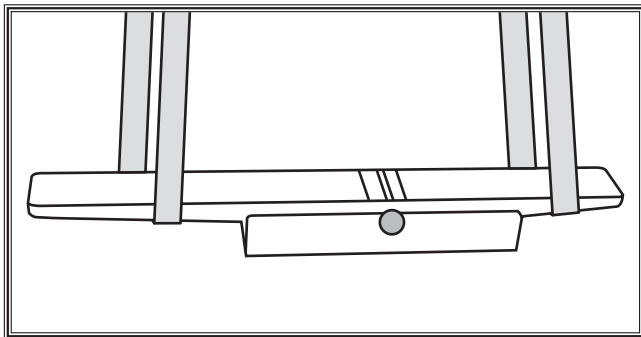

Figure 5. Lifting slings properly positioned.
11. If lifting table assembly with power lifting equipment, attach lifting slings to table assembly, as shown in **Figure 5**, and carefully place it on top of stand.